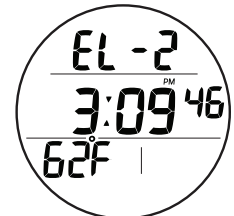

Fig. 126 - GAUG SURF ALT 2
**GAUG SURF ALT 2**, information includes (Fig. 126):